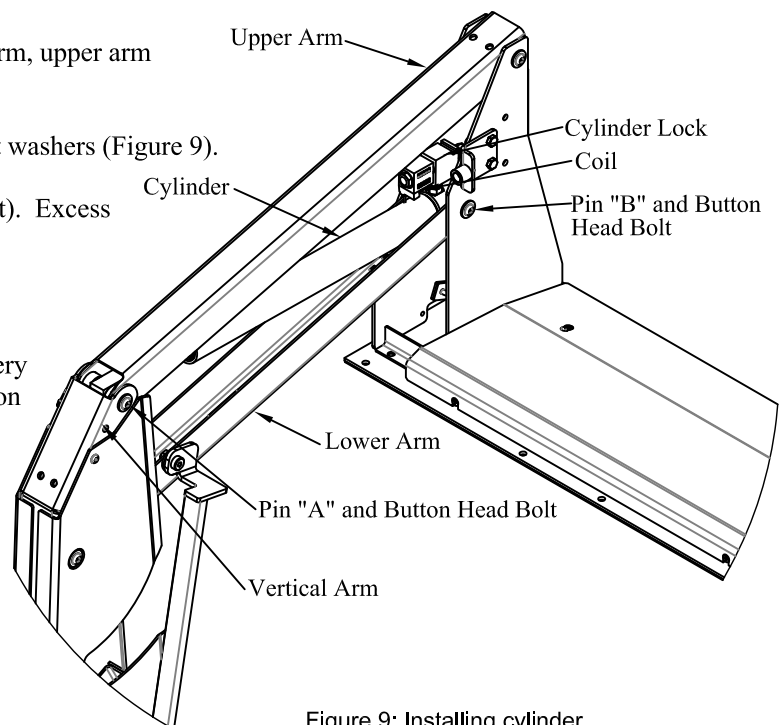

Figure 9: Installing cylinder.
- 2. Install** pin "B" from the outboard side, through the lower arm, cylinder and base plate uprights (Figure 9).
- 4. Install** the coil on the cylinder lock (Figure 9).
- 6. Insert** pin "A" from the outboard side, through the vertical arm, upper arm and cylinder (Figure 9).
- 7. Secure** pins "A" and "B" with new button head bolts and flat washers (Figure 9).